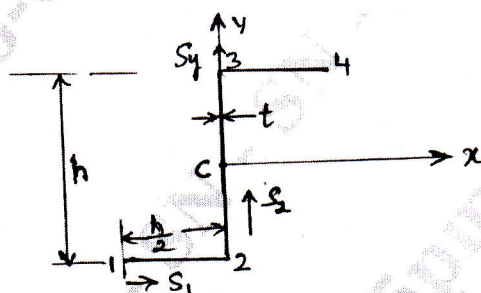

Fig.Q6(a)
- 6 a. Determine the shear flow distribution in the thin walled Z-section as shown in Fig.Q6(a) due to shear load S_y applied through the shear centre of the section.